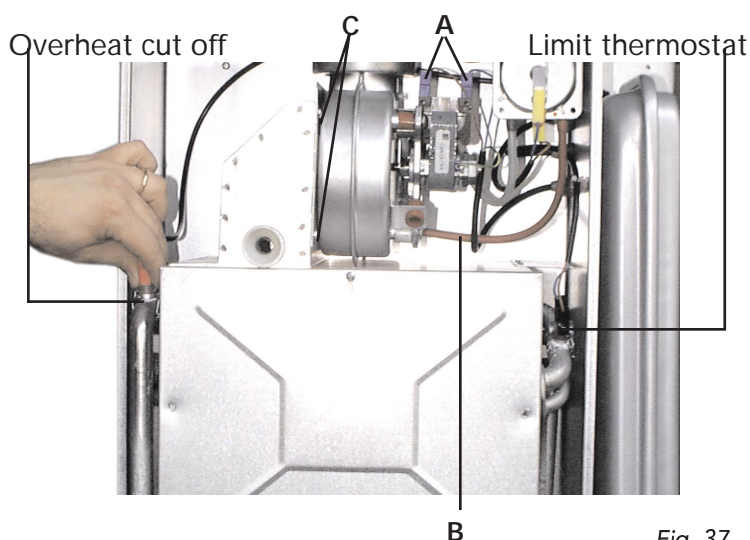

Fig. 37
7.10 Removal of fan (fig. 37)
7.11 Limit thermostat, or overheat cut off thermostat (fig. 37)
- Identify the location of thermostat from fig. 37